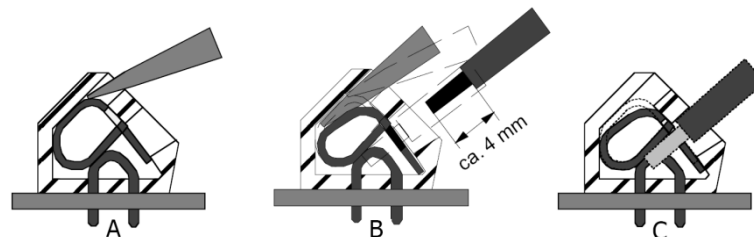

Figure 56 Connection in screwless spring-loaded terminals
- Insert a size 1 screwdriver in the upper opening and insert it turning slightly upwards (figure 56 A).
- Now place the stripped connecting wire in the lower opening and hold it there securely (figure 56 B).
- Withdraw the screwdriver. The connecting wire is then firmly fixed (figure 56 C).
The insulation of the connecting line must extend as far as the terminal indentation, i.e. there must be no further bare part of the connecting line visible above the terminal edge (as shown in figure 56 C). Touching live parts is dangerous to life. The stripped part of the connecting wire should be shortened if necessary.